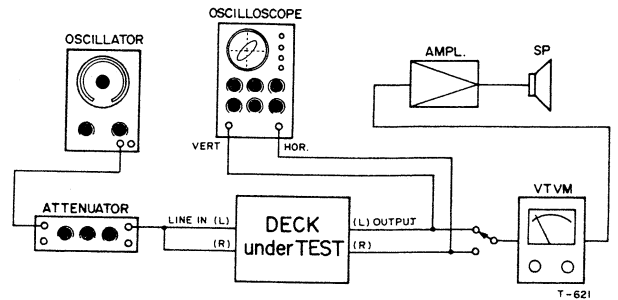

Fig. 6-21 Head phase check setup
**Connection:** Fig. 6-21
Connection: Fig. 6-21